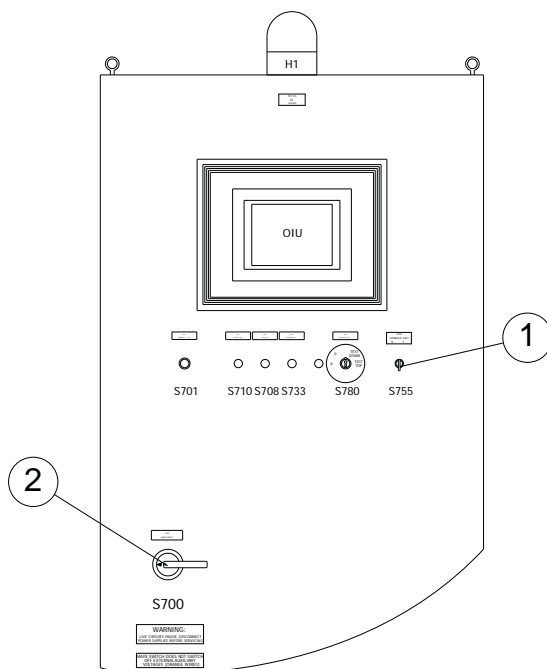

Figure 120. Control panel
2. Stop the hydraulic unit by using the control panel switch (S755 Hydraulic unit). For the location of the switch (1), see Figure 120.
3. Activate the emergency stop circuit by pushing the emergency stop push button S702 (3) from the handheld unit, see the drawing below.